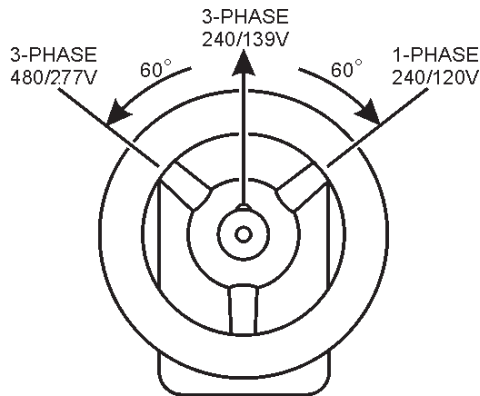

Figure 12. Voltage Selector Switch Wheel
A wide range of voltages are available to supply voltage for many different applications. Voltages are selected by placing the voltage selector wheel switch (Figure 12) in the desired voltage position. To obtain some of the voltages as listed in Table 7 (see below) will require a fine adjustment using the **voltage regulator (VR) control knob** located on the control panel.
The **voltage selector wheel switch** (Figure 12) is located on the generator control panel..